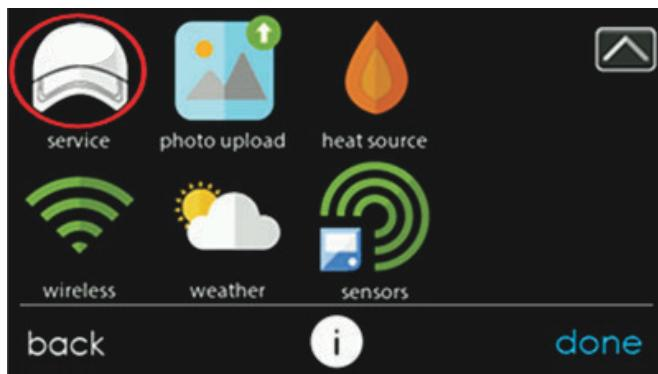

Fig. 12 – Entering Installation and Service Menu
5. Navigate to the “Installation and Service menu” by performing a long press on the service icon from the main screen (see Fig. 12). Once in the “Installation and Service” menu, select “Refrigerant Charging” (see Fig. 13).